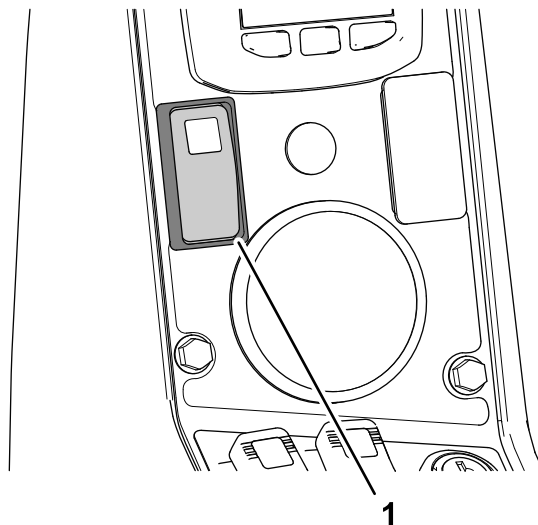

Figure 140
1. Press the accelerator pedal for full engine speed (wide-open throttle), set the throttle-lock switch of the machine (Figure 140).